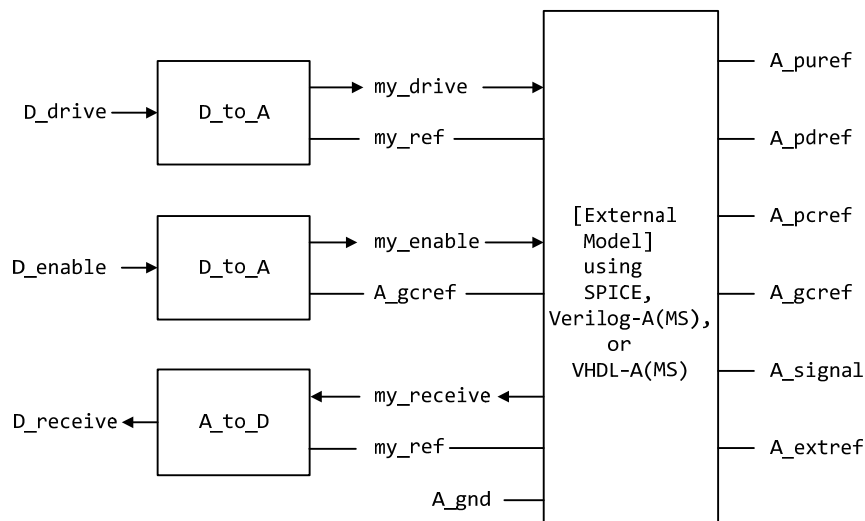

Figure 24 - Example of an [External Model] I/O Buffer Using SPICE, Verilog-A(MS), or VHDL-A(MS)
A conceptual diagram of the port connections of a SPICE, Verilog-A(MS) or VHDL-A(MS) [External Model] is shown in Figure 24. The example illustrates an I/O buffer. Note that the drawing implies that the D_receive state changes in response to the analog signal my_receive, not A_signal: